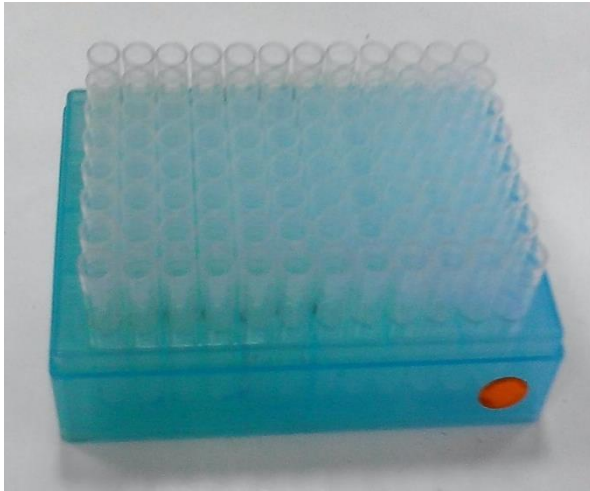

Fig 2
1.Label the plates according to the plate ID assigned on your collection sheet. Put strips tubes in the rack. You can label each strip 1-12 at row H to help you keep orientation correct and not turn the plate around! (Fig 2)